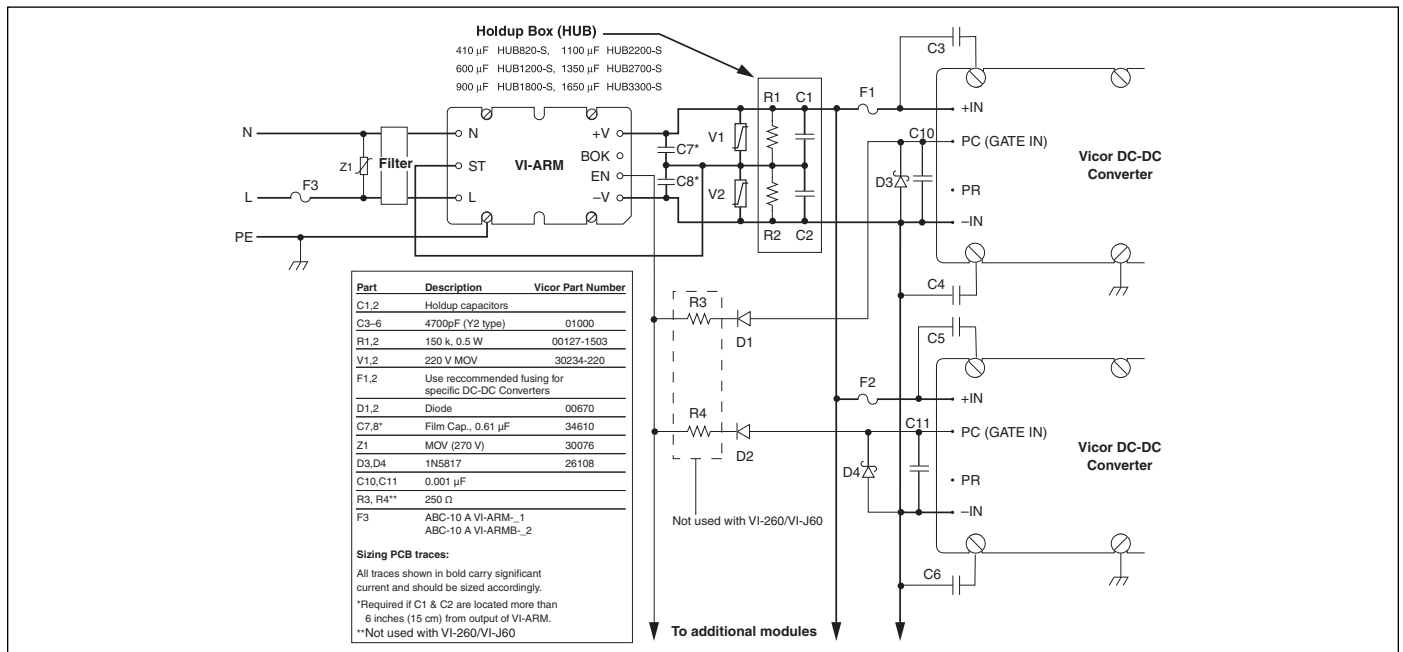

Figure 7-3 — Typical ARM application
Strap (ST) Pin. In addition to input and output power pin connections, it is necessary to connect the Strap pin to the junction of the series hold-up capacitors (C1, C2, Figure 7-3) for proper (autoranging) operation. Varistors across the capacitors provide input transient protection. The bleeder resistors (R1, R2, Figure 7-3) discharge the hold-up capacitors when power is switched off.